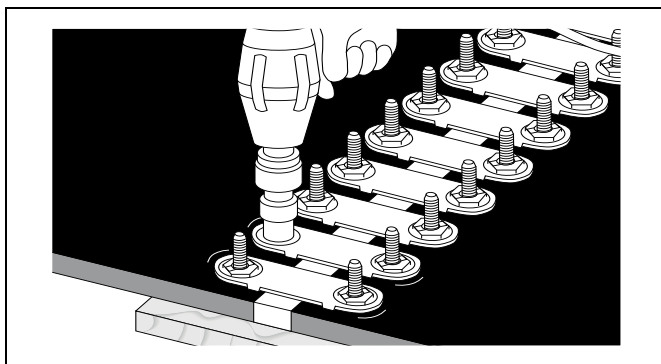

Figure 4M
10. Tighten all fasteners from **EDGES to CENTER**. Tighten all nuts uniformly. The Flexco Power Tool Wrench used with an impact tool will speed this step considerably. (See Figure 4M.)